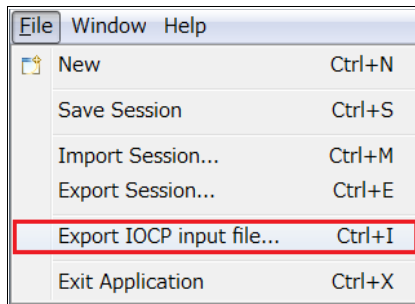

Figure 4-48 Export IOCP input file
1. Select **File** → **Export IOCP input file** (see Figure 4-48).